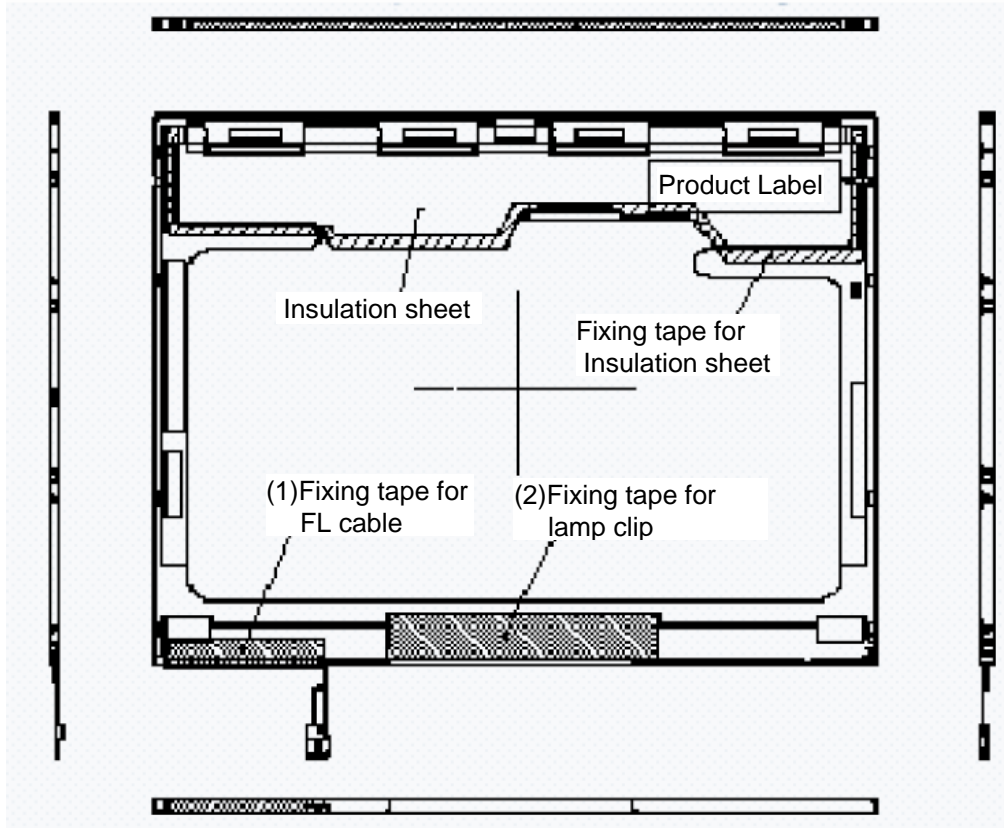

Figure 4-69 Replacing TMD fluorescent lamp (XGA) (1)
To disassemble the 14.1-inch XGA TMD fluorescent lamp, follow the steps below and refer to Figure 4-69 to 4-79.
2. In the order (1), (2) shown in Figure 4-69, remove the tapes for fixing the FL cable and lump clip.